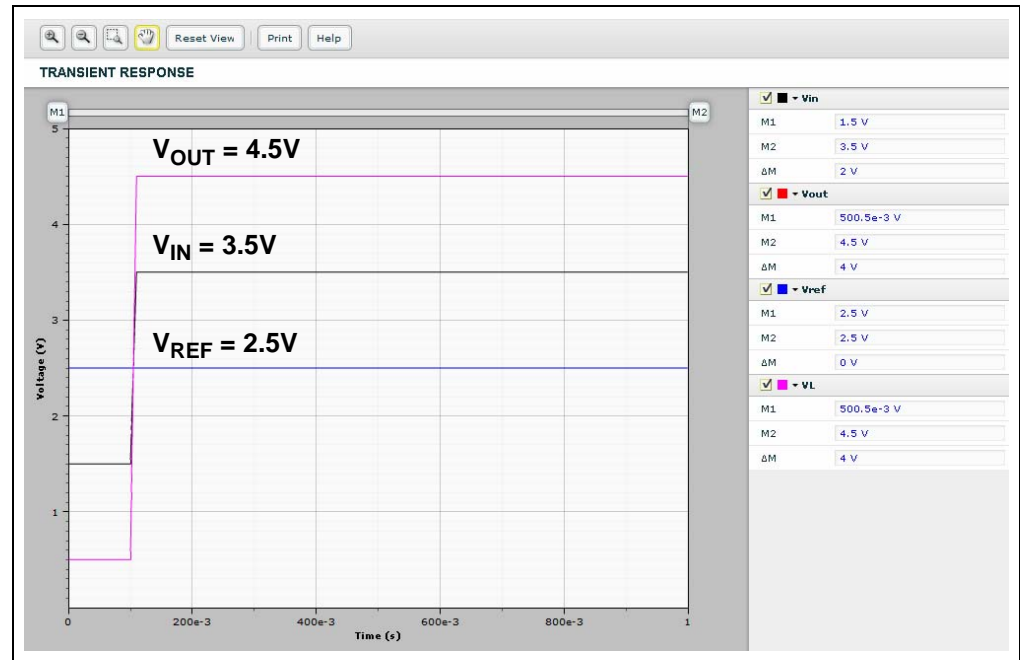

FIGURE 2-26: Simulated Step Response.
- The simulated step response is shown in Figure 2-26. It is a signal with a step amplitude of 4.0V and an center voltage of 2.5V